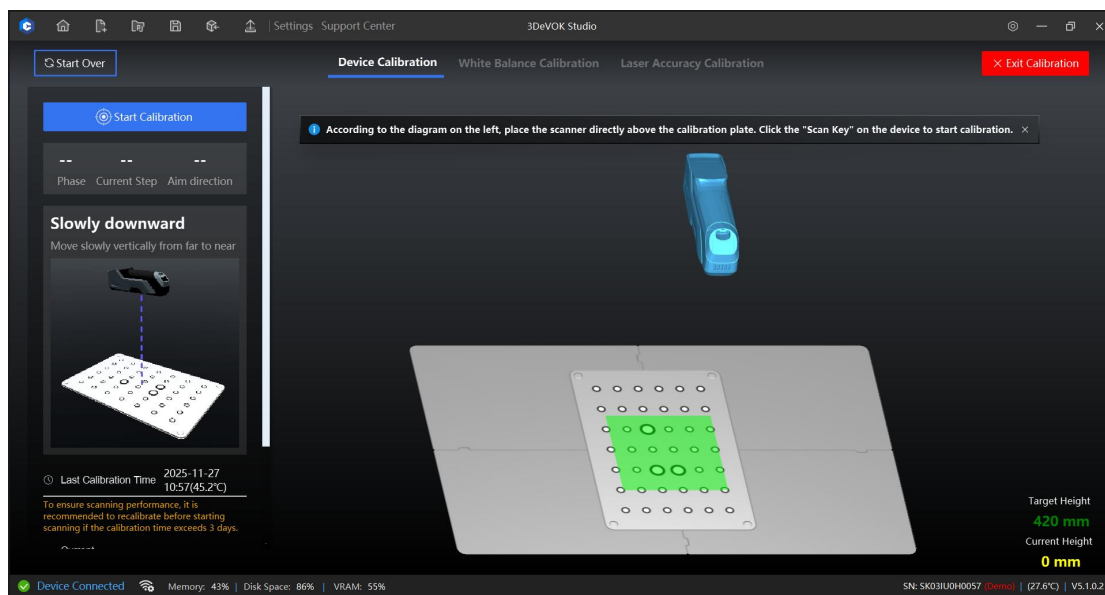

Figure 6-2 Device Calibration
3. Click **Calibration** for device calibration, and follow the steps shown in Figure 6-2.